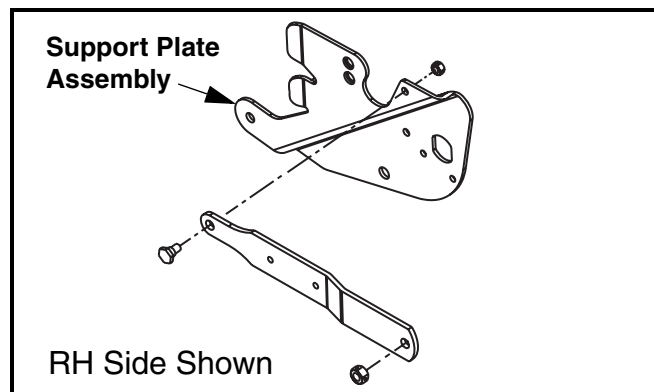

FIGURE 3
7. Installation of the new Links, Item 1, is accomplished in the reverse order of removal. Refer to Figure 3 for correct link installation orientation.